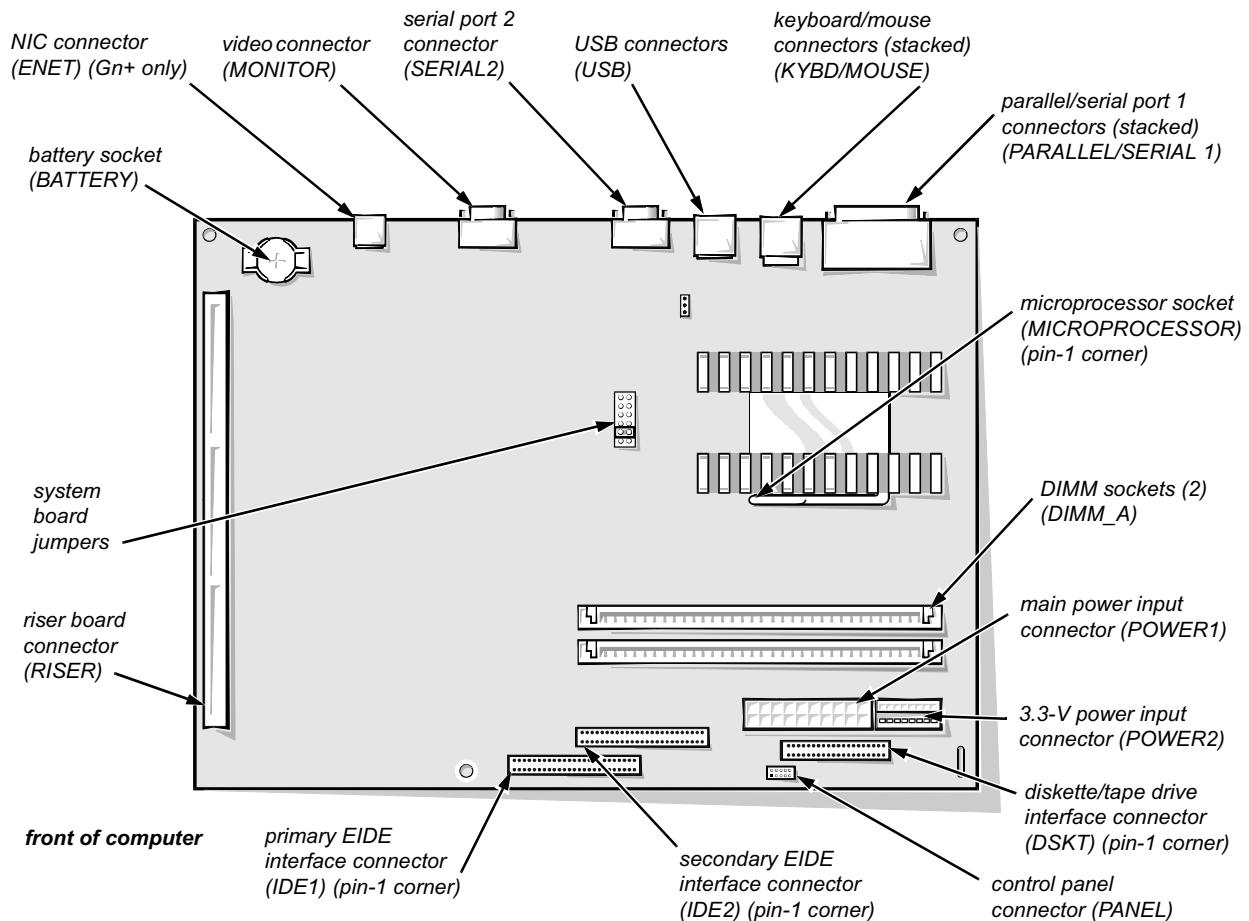

Figure 6-16. System Board Components
- 2. Disconnect the control panel cable from the PANEL connector on the system board (see Figure 6-16).**
The subsections that follow Figure 6-16 contain procedures for removing system board components.